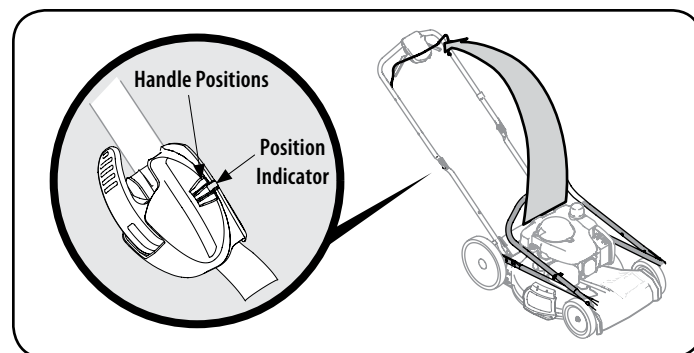

Figure 2
3. While stabilizing mower so it doesn't move, lift the upper handle up as shown in Figure 2. Do not crimp cable while lifting the handle up.
NOTE: When lifting the upper handle ensure the position indicator aligns with one of three handle positions. See Figure 2 inset.